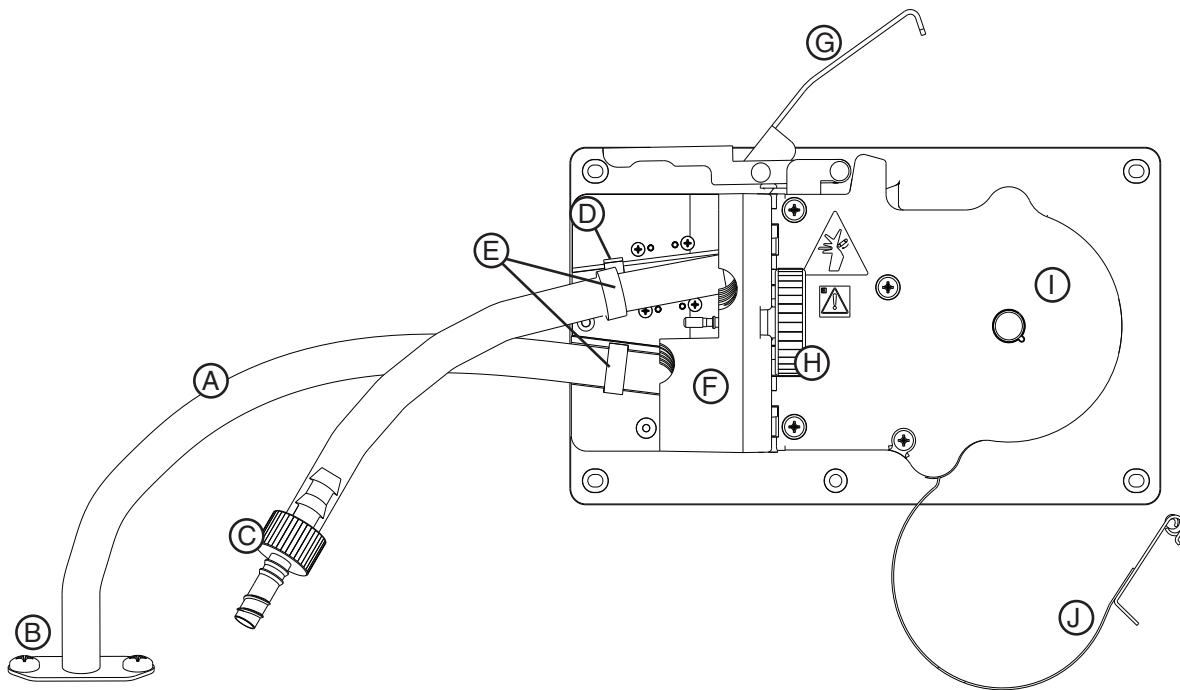

Figure 5-1 5800 Pump
2. Refer to Figure 5-1. Release the latch (G) securing the metal pump housing band (J).
Refer to Figure 5-1 and the following steps to replace the pump tube.